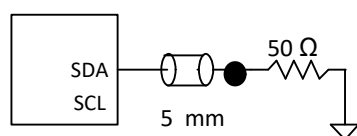
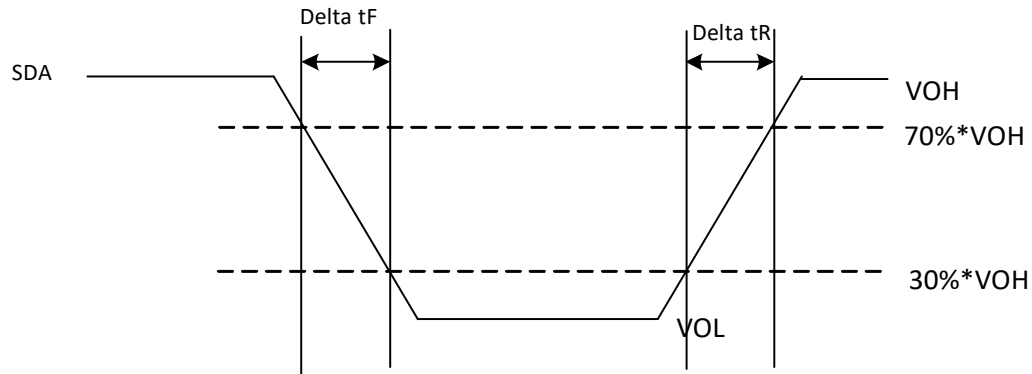

Figure 22 Output Slew Rate and Output Timing Reference Load
Figure 23 Output Slew Rate Measurement Points
*3. Output slew rate is guaranteed by design and/or characterization. The output slew rate reference load as shown in Figure 22 and Figure 23 shows the timing measurement points. For slew rate measurements, the V_{OH} level shown in Figure 23 is a function of R_{ON} value; V_{OH} = {1.0/(R_{ON} + 50)} × 50.